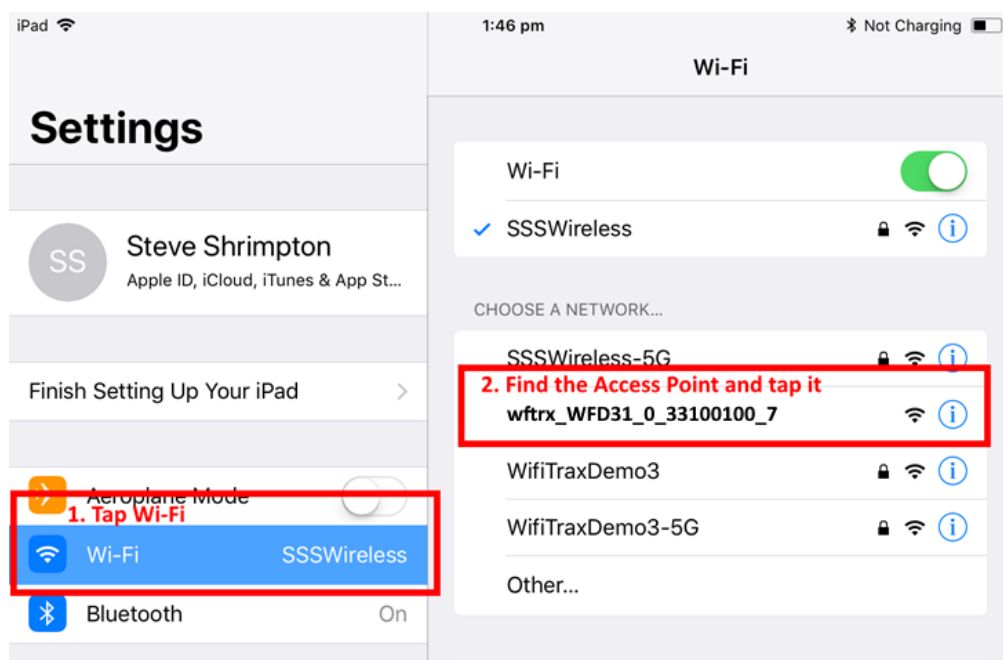

Figure 5 Connecting to the WFD-31 Wi-Fi Access Point
- (5) Tap Wi-Fi on the left-hand menu. You should see a collection of available Wi-Fi Access Points on your right. Look for one that is of the form wftrx_WFD31_1_XXXXXXX_7, where XXXXXXX is the serial number of your unit that appears on its bag and the unit itself. Tap that Wi-Fi Access Point as Figure 5.